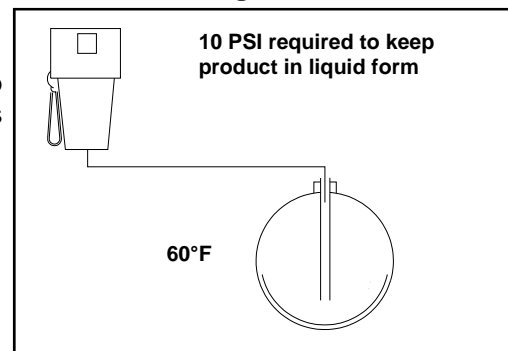

Figure 2
**Vapor Pressure** (the amount of pressure required to keep the product in a liquid form at 60°F) of today's product is approximately 10 PSI. See Figure 2.